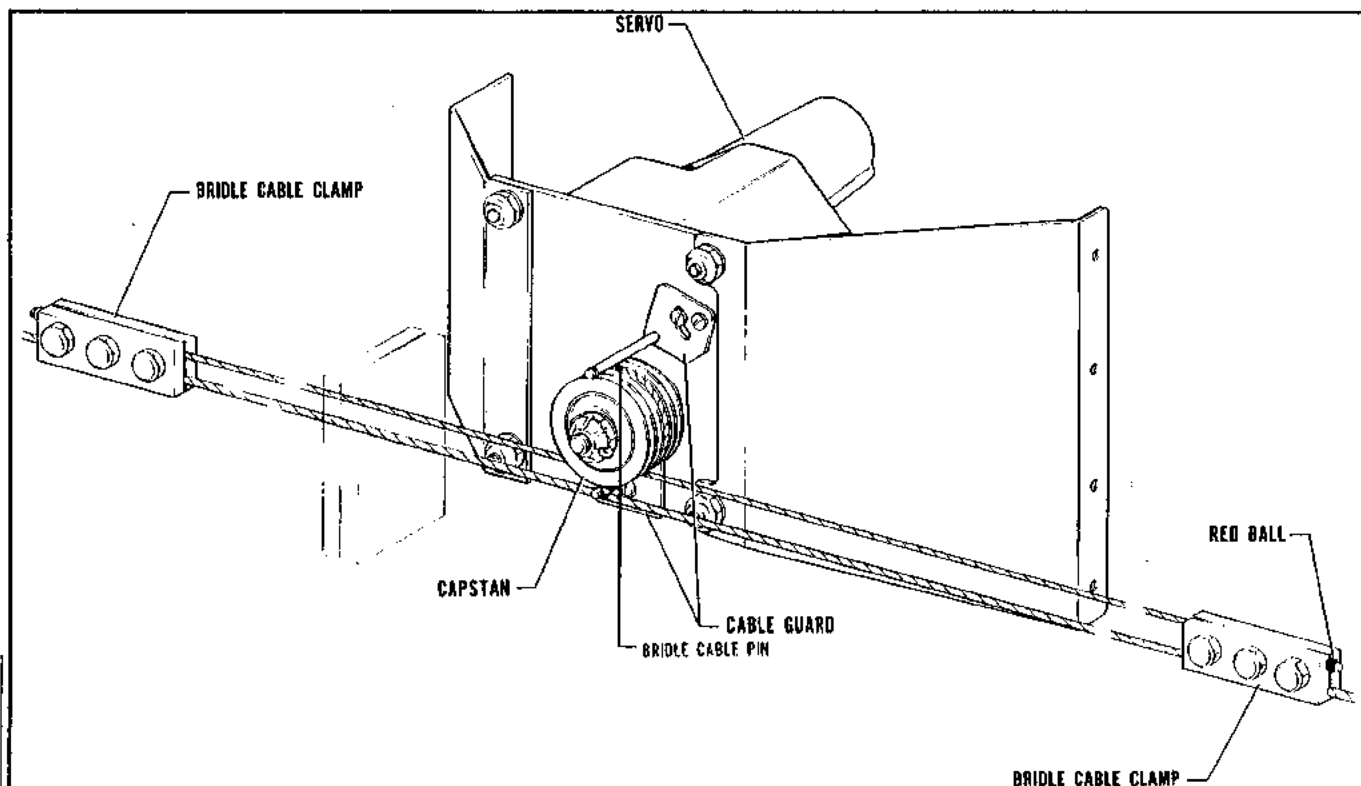

Figure 3-22. Roll Servo Installation, PA-31-310,
3-46. INSTALLATION OF ROLL SERVO. (PA-31-310, PA-31-325, PA-31-350 and PA-31P) (Refer to Figure 3-22.)
e. REFER TO FIGURE 3-8 AND CHECK THAT THE CONTROL CABLE TENSION (Z) IS ADJUSTED TO 35 ± 2 POUNDS PRIOR TO ATTACHING THE BRIDLE CABLE CLAMPS. Ascertain area on cable where clamp attaches is clean, dry and free of all lubricants and anti-corrosive additives. Attach the bridle cable to the aileron control cable. The bridle cable is drawn to the aileron control cable and attached with clamps at the previously painted locations on the control cable. The end of the bridle cable with the red ball extends to the inboard section of the wing. (Should the aileron cable not be painted, position the control wheel in neutral and align the bridle cable pin installed in the capstan as shown in Figure 3-22.) Adjust the bridle cable clamps so that the bridle cable tension (Y) is equal to the control cable tension between the bridle cable clamps (X) 17 ± 2 pounds without increasing the control cable tension from the bridle cable clamps outward. At no time shall the bridle cable tension be greater than the control cable tension between the clamps. Adjusting the bridle cable tension will lower the control cable tension between the two bridle cable clamps. Torque the bridle cable clamp bolts to 55 ± 5 inch pounds.